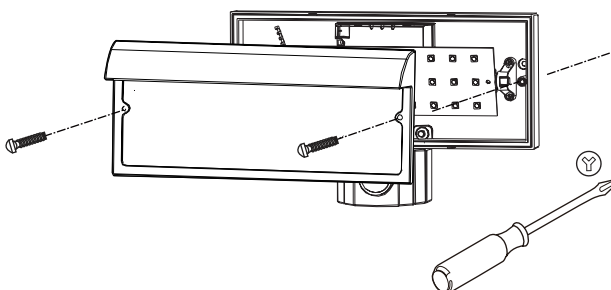

**Fig.4a**
- Step4 If it is a wooden wall, there is no need to use plastic expansion, just drive the screw with the screwdriver.(Fig.4a)